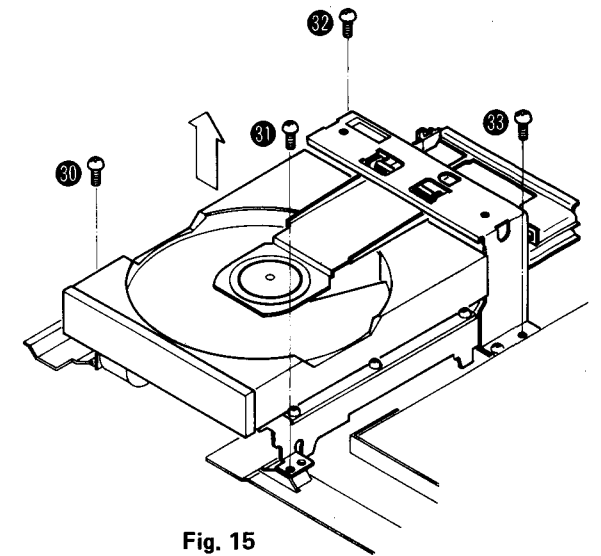

Fig. 15
2. Remove the 4 setscrews [Fig. 15 : 30 ~ 33] of traverse unit. Screws 30 ~ 33 are red.
1. Remove the 4 setscrews [Fig. 15 : 30 ~ 33] of traverse unit.